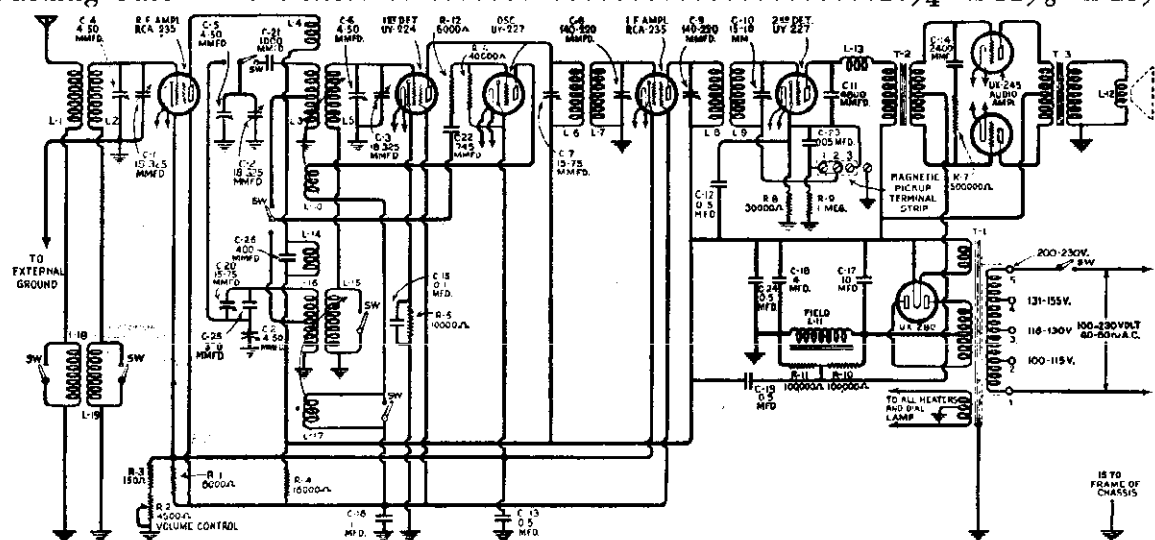
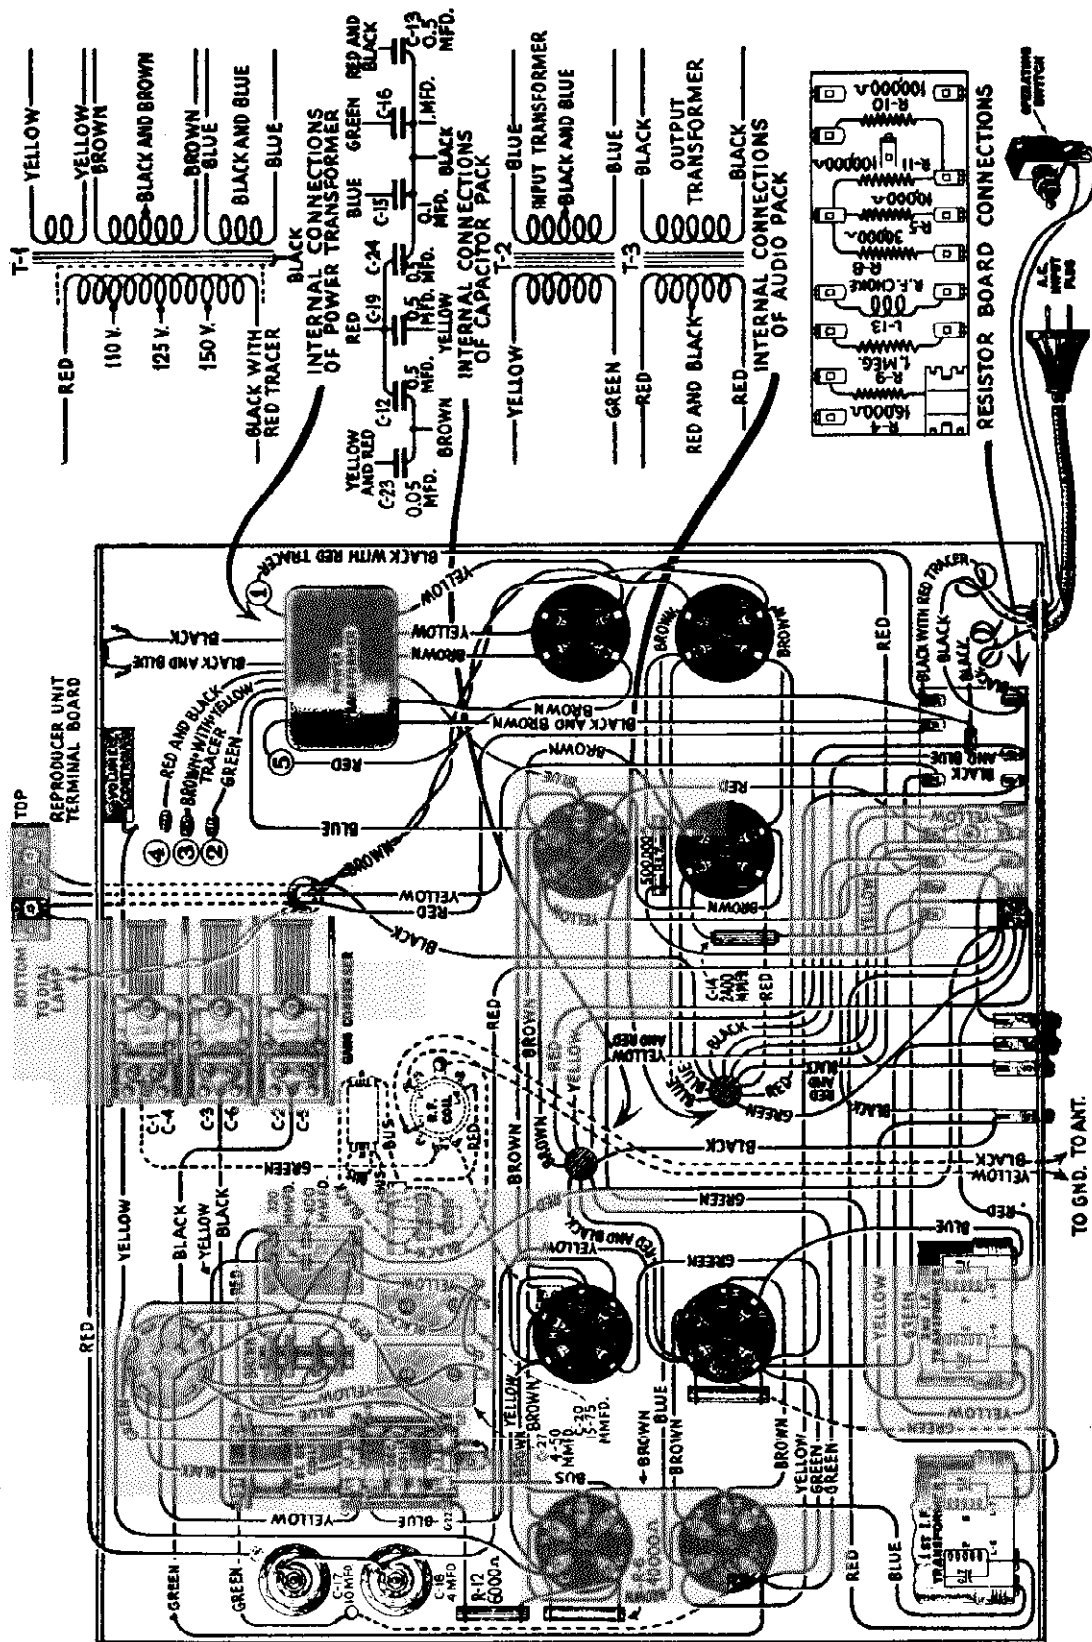
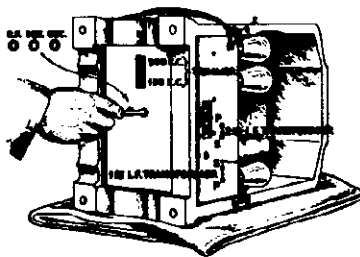
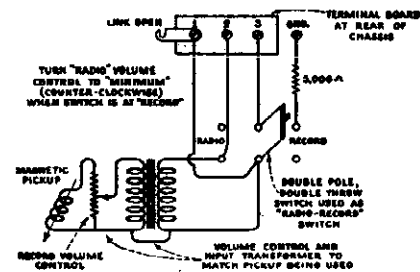

Figure 1—Schematic circuit diagram of R-7-LW
Figure 4—Wiring diagram of R-7-LW
Figure 2—Location of various line-up capacitors
Figure 3—Magnetic Pickup Connections
Figure 1 shows the schematic circuit diagram. Figure 2 shows the location of the various line-up capacitors. Figure 3 gives the correct connections for attaching a magnetic pickup to the R-7-L.W. and Figure 4 shows the wiring diagram. The voltage readings obtained at the Radiotron sockets with one of the usual set analyzers are given on page 3.
- Now adjust the secondary and primary of the second and first I.F. transformers until a maximum reading is obtained in the output meter. See Figure 2. Go through these adjustments a second time as a slight readjustment may be necessary.
- With the socket wrench adjust the oscillator, first detector and R.F. line-up condensers until a maximum deflection is obtained in the output meter. (See Figure 2).
- Set the oscillator at 300 K.C. Set the Selector Switch to the right for the low frequency band and tune in this signal with the receiver. Adjust the Volume control for a deflection in the output meter. Now adjust the 300 K.C. condenser Figure 2 until maximum output has been obtained. Rock the gang condenser back and forth while making this adjustment.
- Set the oscillator at 150 K.C. and repeat as in (f) only adjust the 150 K.C. trimming condenser shown in Figure 2.